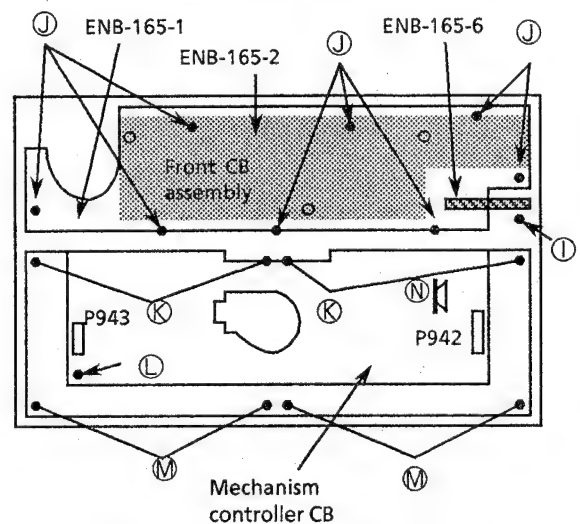

Fig. 6 Behind the front panel
4. Remove the screw ① to remove the headphone circuit board (ENB-165-6).
5. Remove the 8 screws ① fixing the assembly (Fig. 6).
3. Disconnect the connectors P492,493 (Fig.6).
4. Remove the 8 blue colored screws ⑫ and ⑬ fixing the mechanism assembly (Fig. 6).
2. Remove the screw ① and release the hook ⑮ (Fig.6).